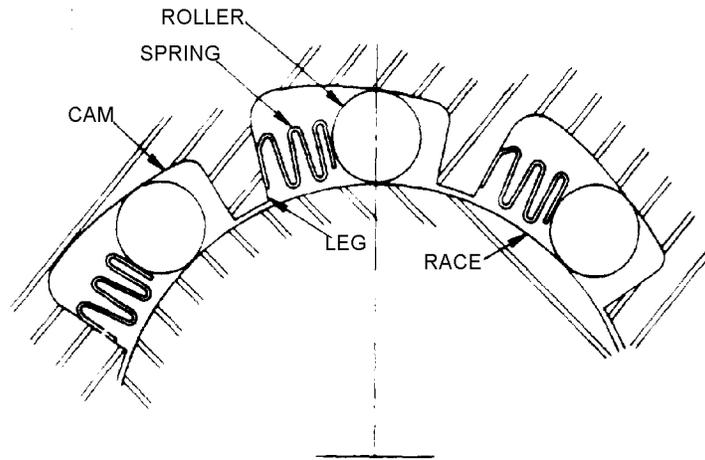

FIGURE 3—LOOSE ROLLER TYPE CLUTCH DIAGRAM (LEG TYPE CAM)
- 4.3.1.1 *Leg Type*—A cam which has integral legs projecting into the space between the rollers to provide reaction for the springs and may provide radial location of the race relative to the cam. (See Figure 3.)